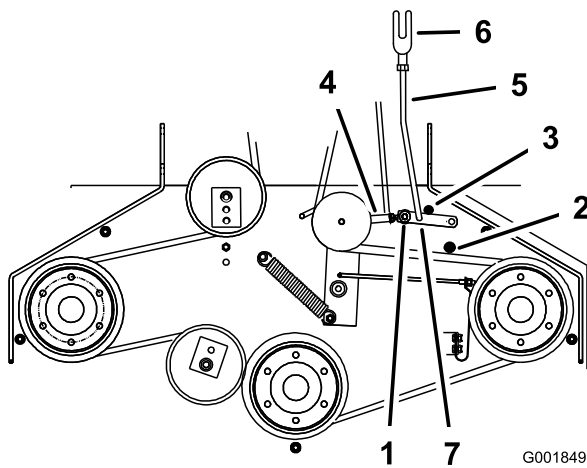

Figure 48
5. Make sure the assist arm is against the rear assist arm stop on the deck (Figure 48).
7. The assist arm should contact the front assist arm stop on the deck. If it does not contact, adjust the bellcrank so it is closer to the gusset (Figure 48).
8. To adjust the assist arm link, remove the hairpin cotter pin from the assist arm (Figure 48).
11. Install the assist arm link into the assist arm and secure it with the hairpin cotter pin (Figure 48).